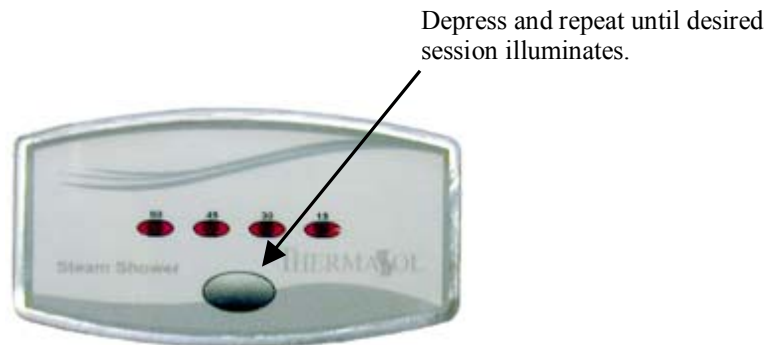

Figure 3
2. **Changing session time.** Press "STEAM" button again and repeat until your desired time session lights up, **see figure 3.**